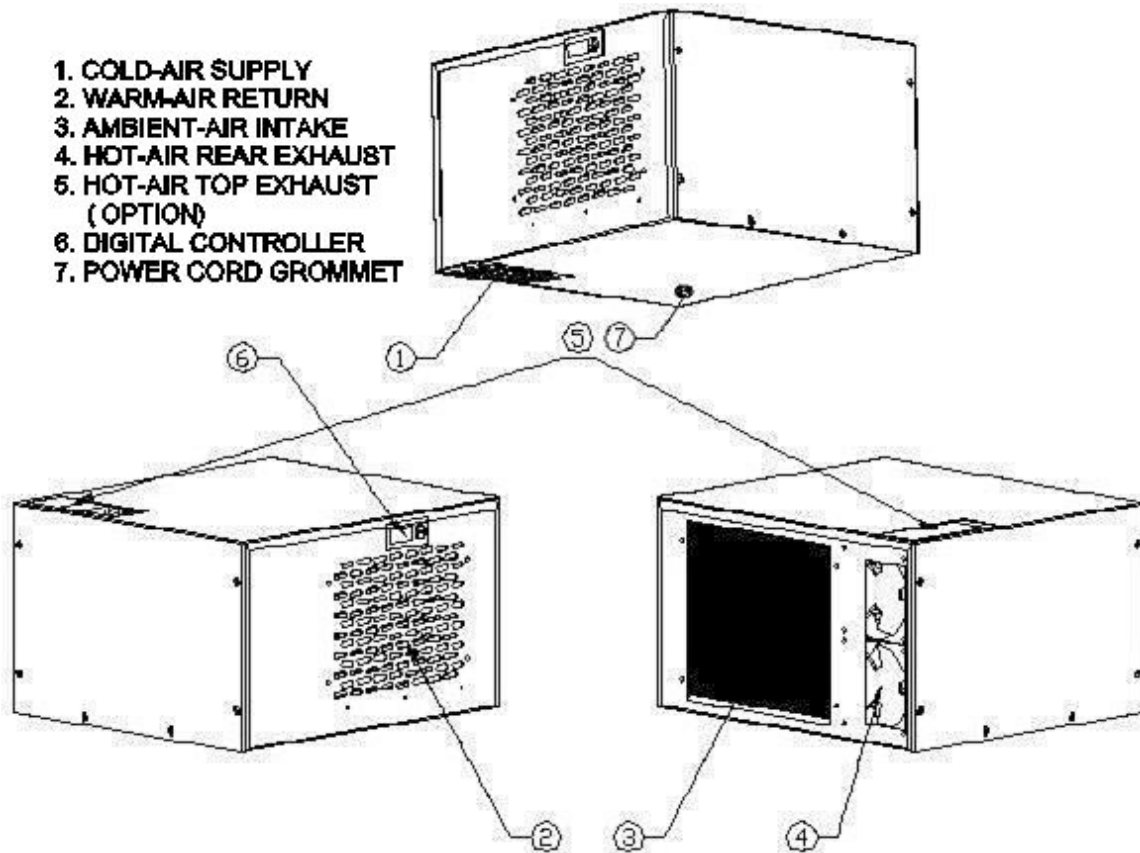

Fig. 1.1 FEATURE DESCRIPTIONS
- Press and fit the grommet into the hole at the bottom of the cooling unit to prevent the exhaust air from going into the cabinet (see Fig. 1.1).